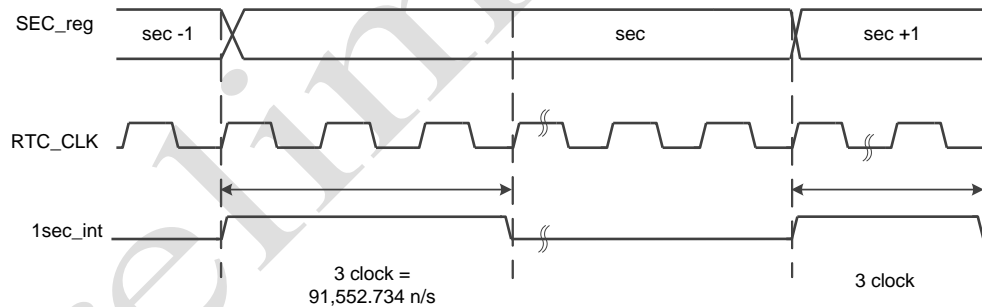
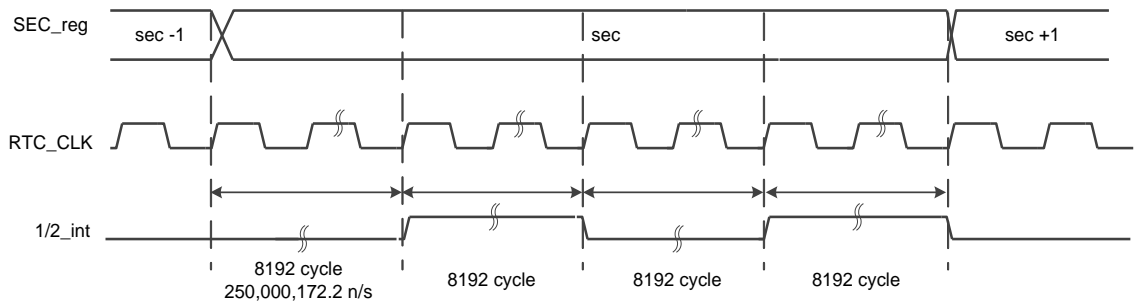
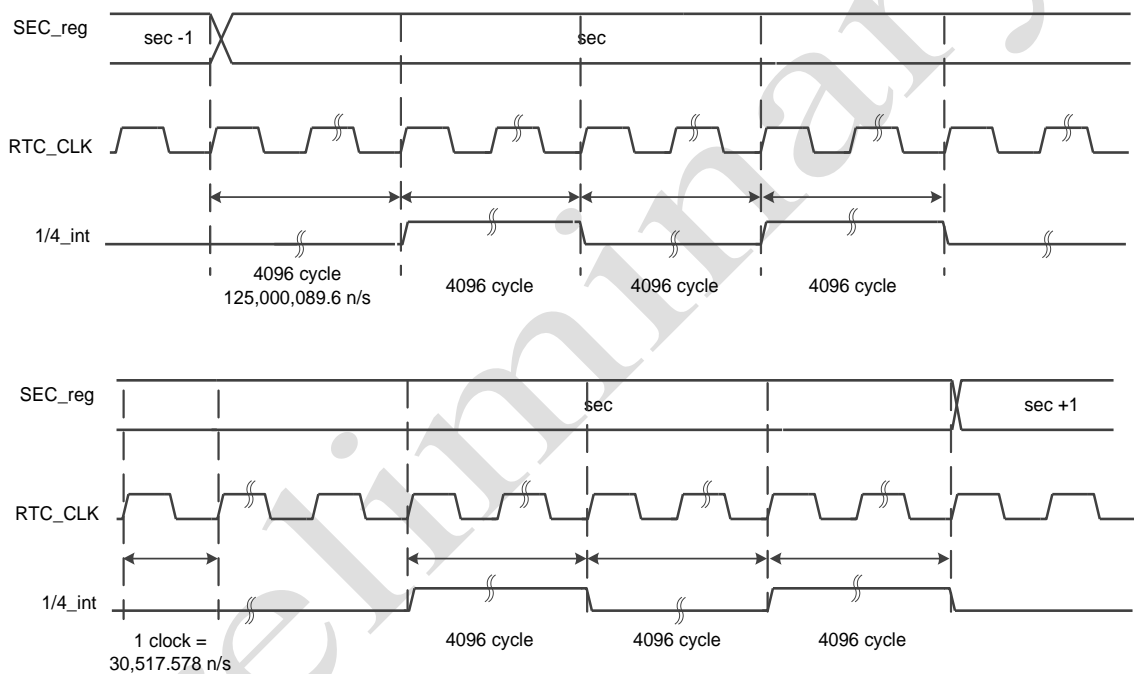

Figure 12-4 1sec Interrupt Operation
Figure 12-5 1/2 Interrupt Operation
Figure 12-6 1/4 Interrupt Operation
- * Periodical interrupt occur 1cycle interrupt, except 1/4 and 1/2 interrupt. (Refer to Figure 12-4, Figure 12-5, Figure 12-6)